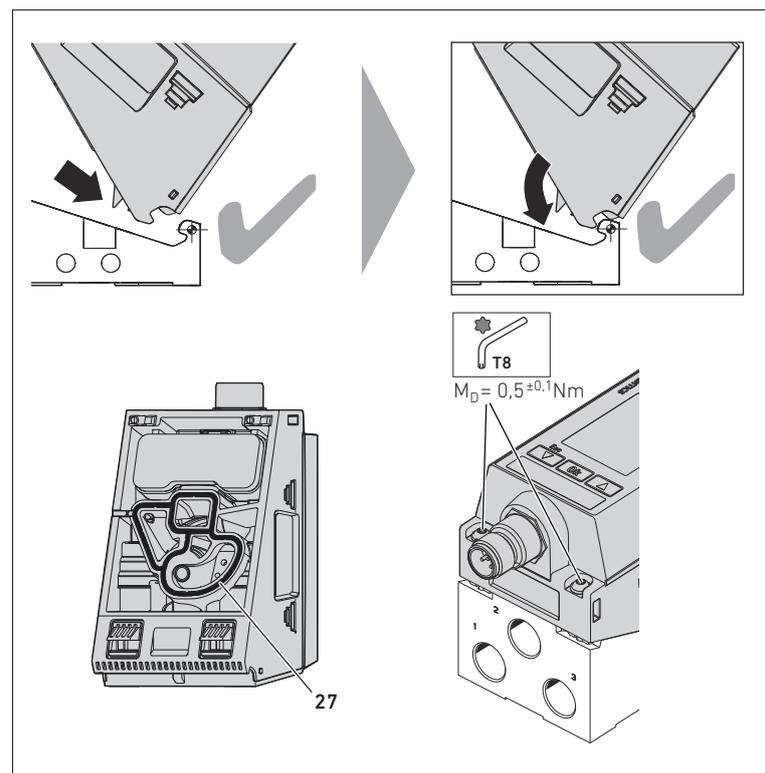

Fig. 9: Assembling the EV03 pressure regulator on a base plate
1. Place the EV03 onto the rotational axis  $\blacklozenge$  at an angle (see Fig. 9).
2. Fold down the EV03 so that it rests on the EV03 base plate. Make sure the seal (27) is installed correctly in the pressure regulator.